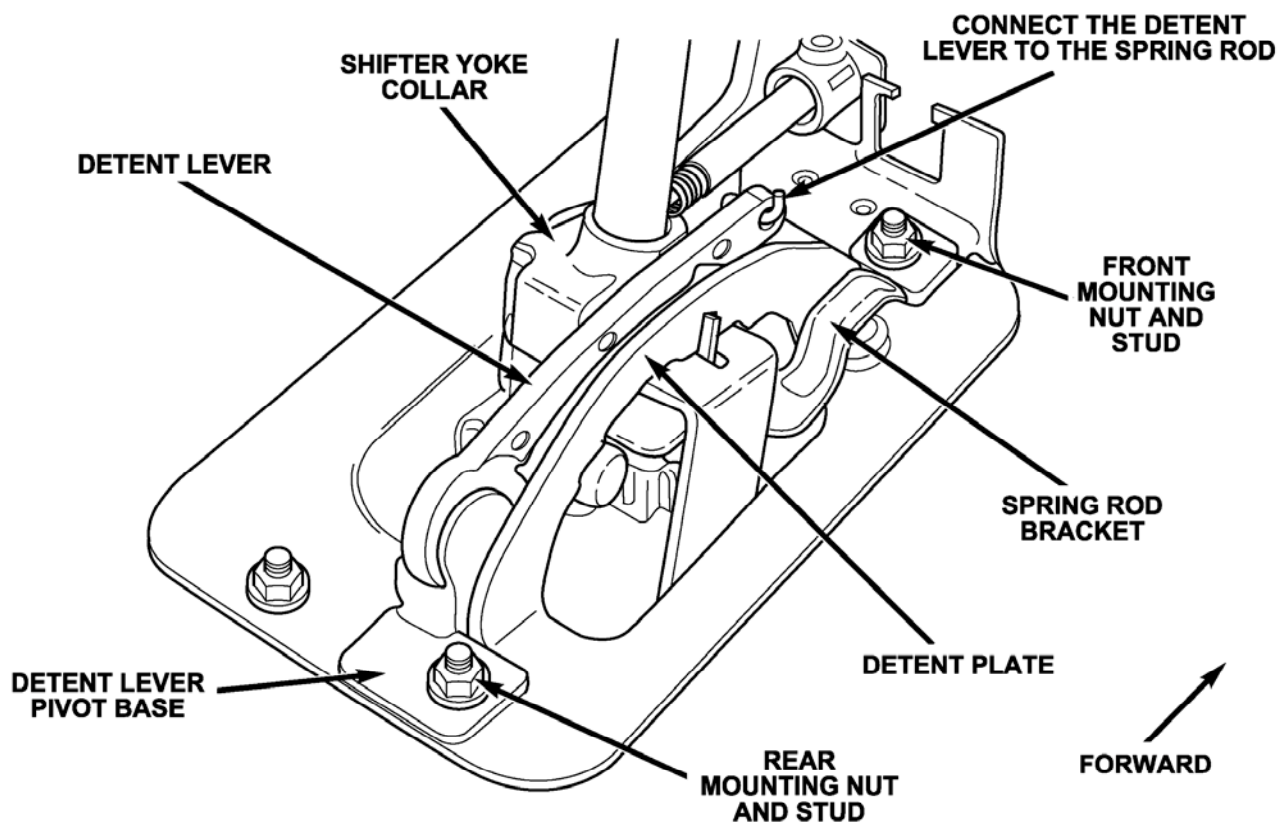

Figure 5
12. Hook the spring rod through the detent lever (Figure 5).
NOTE: The spring rod must be oriented through the detent lever as shown in Figure 5.
13. Install the detent lever pivot base over the rear shifter mounting stud (Figure 5).